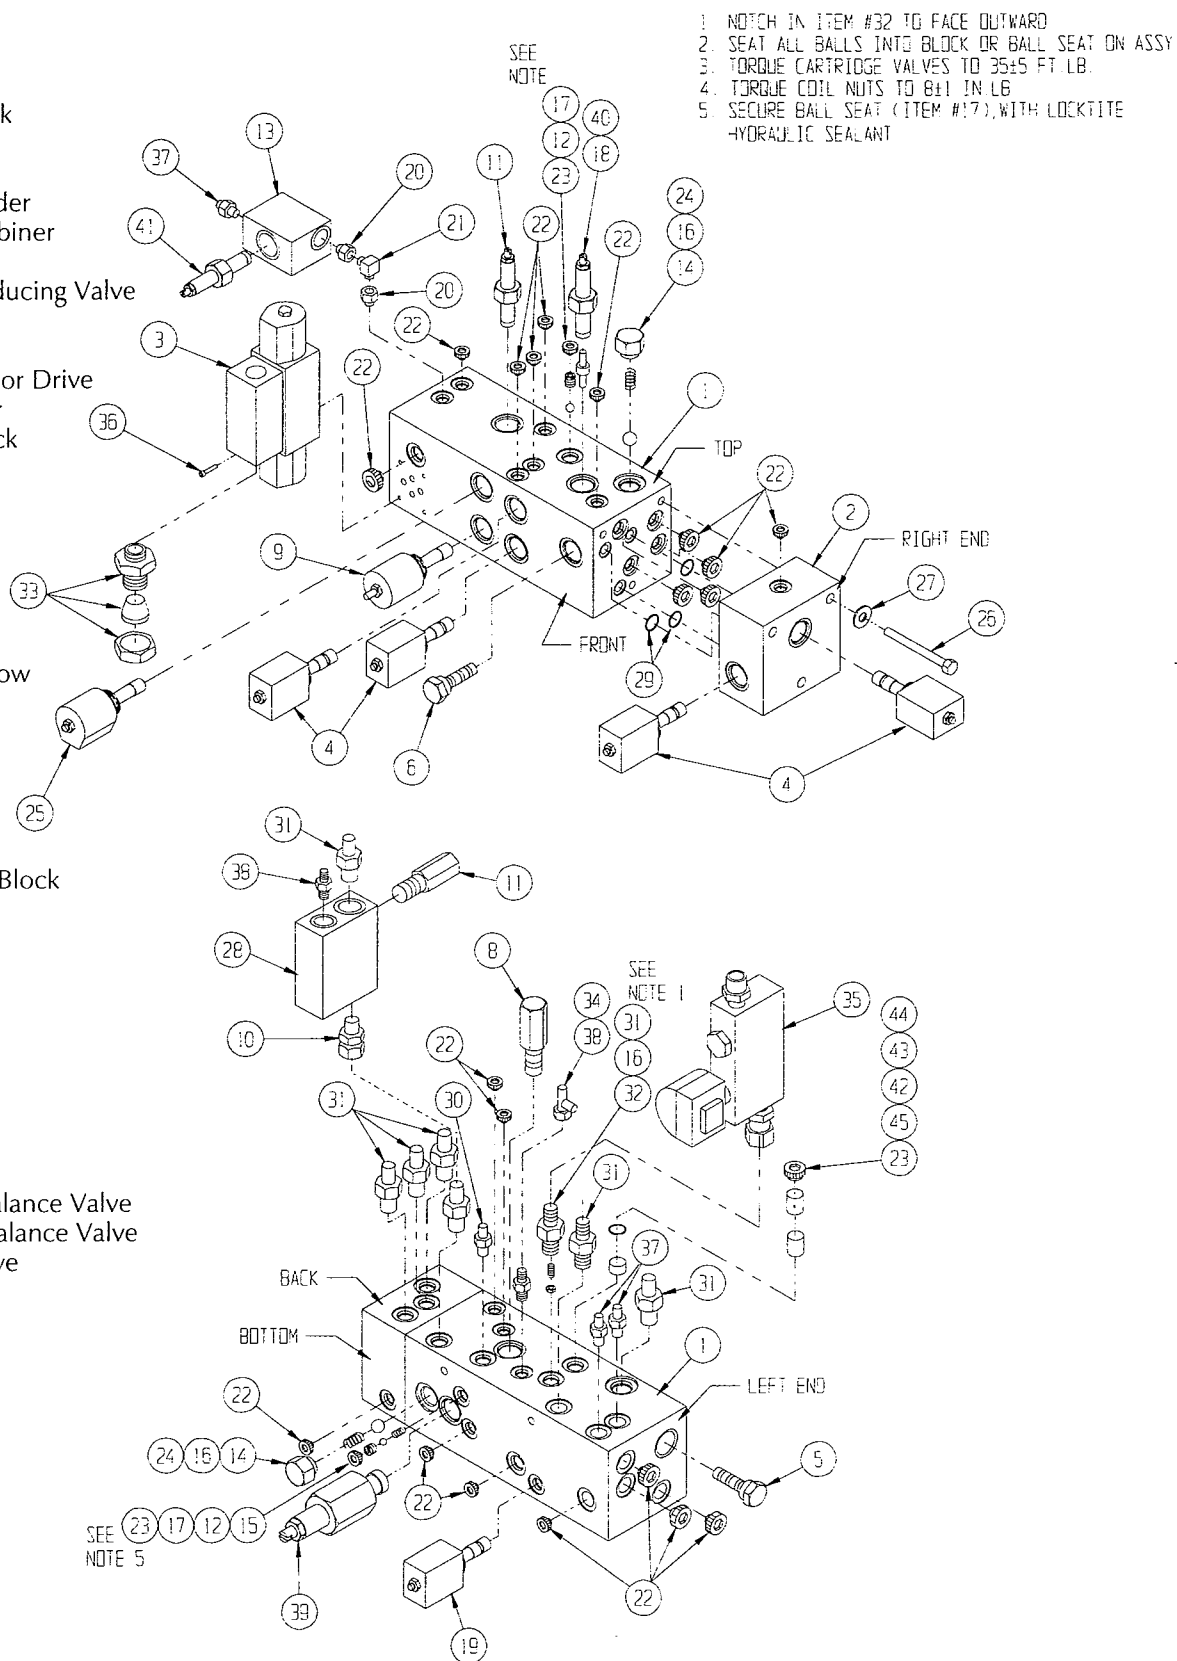

Figure 4-12: Hydraulic Manifold, Exploded View
4.7 Hydraulic Manifold (Figure 4-12)
NOTE: Mark all components as they are removed so as not to confuse their location during assembly. Refer to Figure 4-12 often to aid in disassembly and assembly.